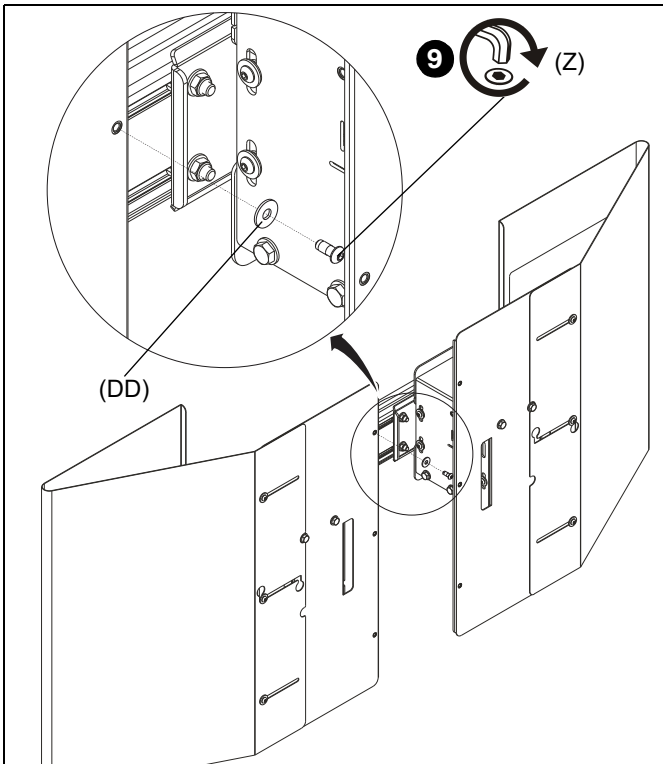

Figure 14
9. Loosely install 1/4-20 x 5/8" button head cap screw (Z) and 1/4" washers (DD) into top right hole on left center shield (K). (See Figure 14)